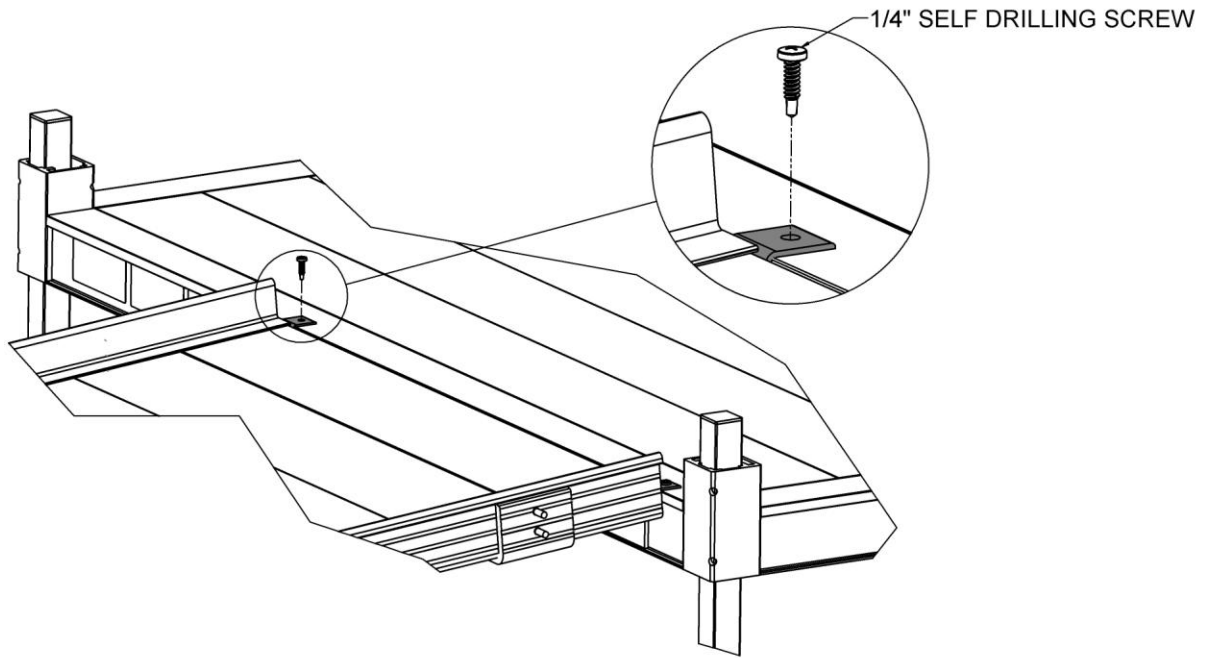

FIG. 5.2
5.1.4 Use the hole in the Ramp End Clip as a template to drill 1/8" pilot hole in the platform side rail, then use the 1/4" x 1" long self-drilling, self-tapping screws to secure the Ramp End Clip to the platform side rail. (FIG 5.2).